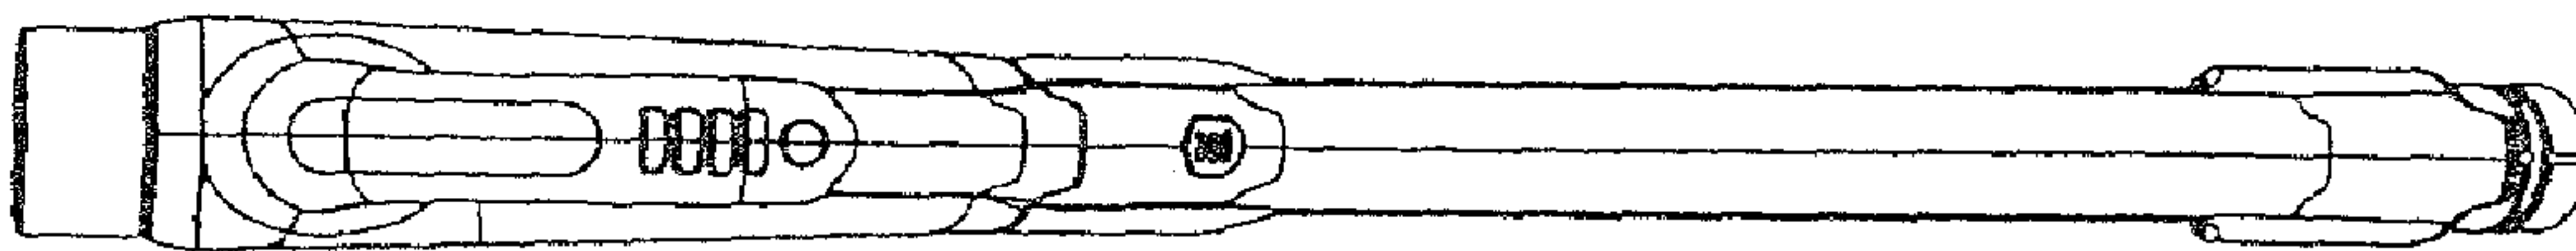

FIG. 5
- FIG. 5 is a top view in a closed position;